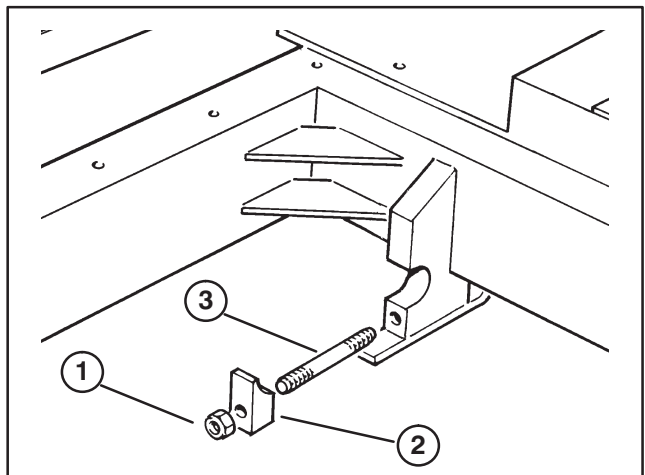

Figure 41
10. Remove (2) locknuts securing coring head to chassis (Fig. 41).